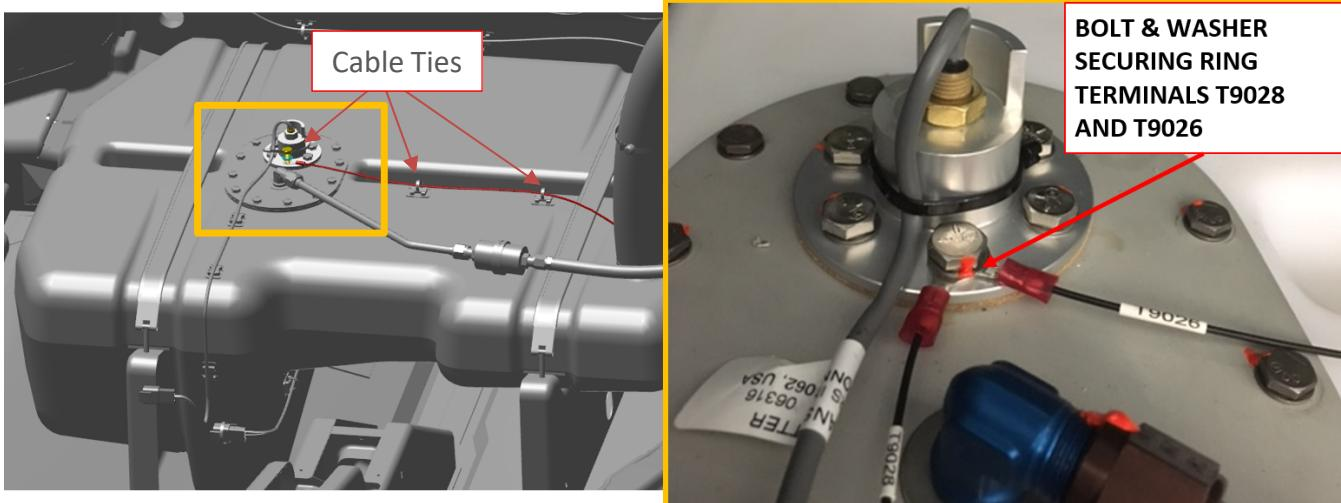

Figure 7 – fuel level sensor ring terminals.
3. Remove electrical connections from fuel level sensor, Figure 7:
- f. Additionally, secure the fuel level sensor harness with a one CABLE-TIE NYLON 6-6, 30 LB around the base of the fuel level sensor housing as shown in the right side photo of figure 7 to keep the harness from chaffing on the baggage floor. NOTE: This cable-tie is not shown in any of the bladder fuel tank photos.
3. Secure the electrical connections to the fuel level sensor plate, Figure 7: